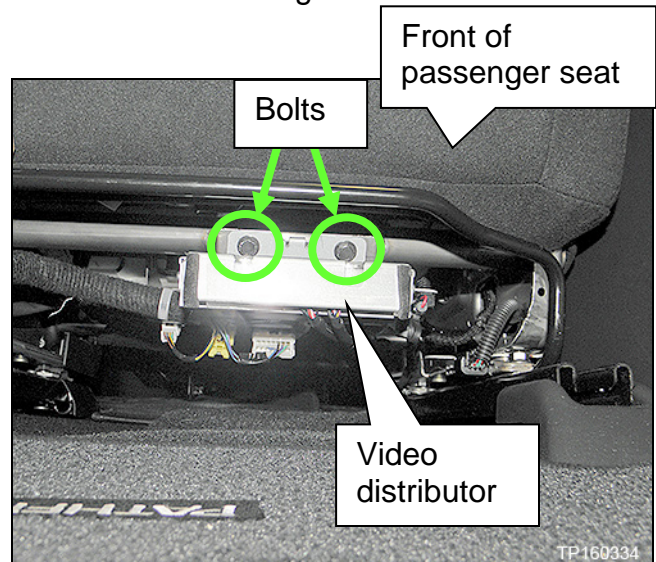

Figure 4
8. If equipped, remove the video distributor shown in Figure 4.